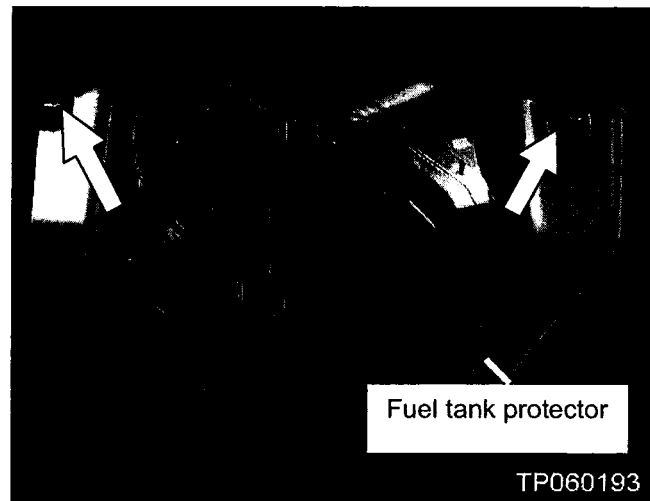

Figure 51
5. Remove the nuts shown in Figure 51.